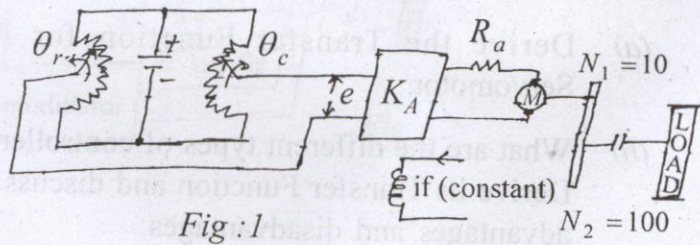

Fig :1
5. Fig :1 shows a positional control system for controlling the position of a shaft. The potentiometer error detector measures the deviation of the output. Shaft w.r.t reference position θ_r . The error is amplified by means of an amplifier, the output of which is fed to an armature controlled dc motor of an amplifier, the output of which is fed to an armature controlled dc motor. The motor shaft is coupled to the load shaft through a gear.